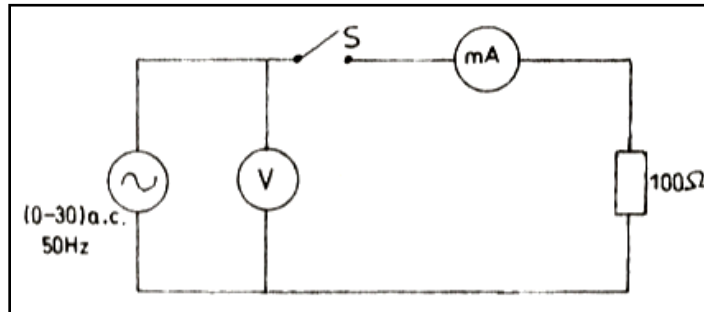

Figure 2
- (a) Connect the circuit as shown in Figure 2.